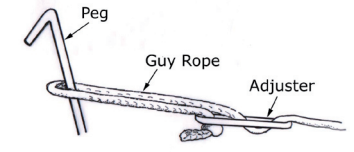

Fig 3
10. Unravel the guy ropes and loosely peg out each one ensuring that they are all pegged directly in line with the seam or pole to which they will apply tension and support. Once this is achieved tighten the adjusters so that equal tension is applied to each guy point (see figure 3).